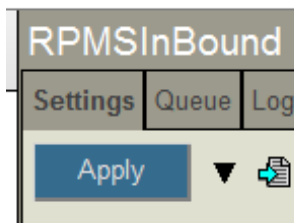

Figure 5-19: **Apply** button
3. Click **Apply** to apply the change to the production instance, as shown in Figure 5-19.